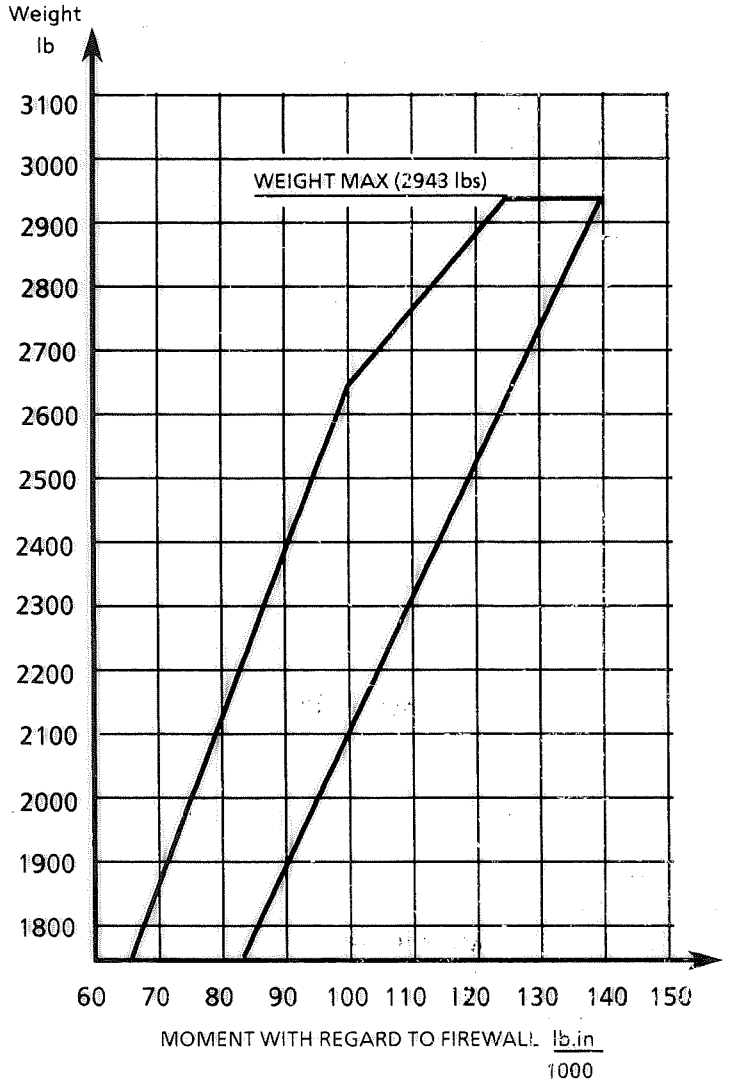

Figure 6.5 - LIMITS WEIGHT / MOMENT
- Weight / Moment envelope : see Figure 6.5
Extract translucent Figure 6.5 from the manual and take a pencil.
- On Figure 6.5, place point A (1) corresponding to your empty airplane